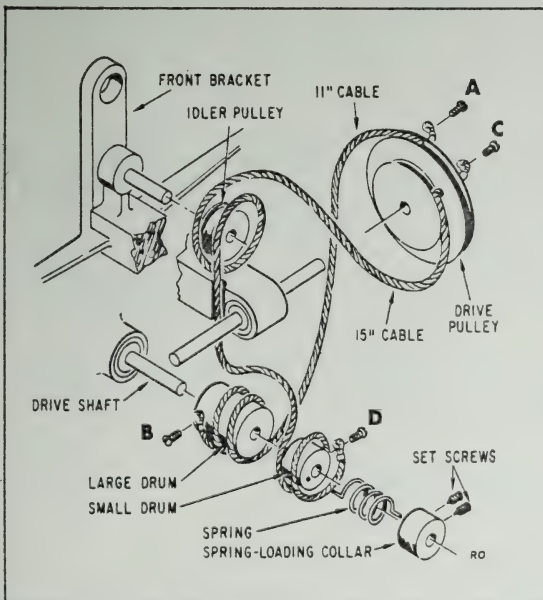

Figure 4-1. Exploded Rear View of Drive Cabling
a. Remove old cable and screws at A, B, C, and D (see figure 4-1). Loosen setscrews in spring-loading collar on rear of drive shaft.
c. Set instrument tuning dial to high frequency limit and rotate tuning capacitors so plates are open full. Fasten cable at A, and thread as shown in figure 4-1 with other end fastened by screw at B on large drum.
d. Repeat steps b and c using the 15-inch cable; start at C and finish at D on the small drum as shown in figure 4-1.
e. Revolve spring-loading collar counterclockwise (viewed as shown in figure 4-1) until slack is removed from drive cables. Rotate an additional half turn counterclockwise to tighten spring, and then tighten setscrew.
h. Check dial calibration. If a constant error appears, loosen setscrew in drive pulley (setscrew not shown in figure 4-1) and rotate pulley slightly as required to correct this error.